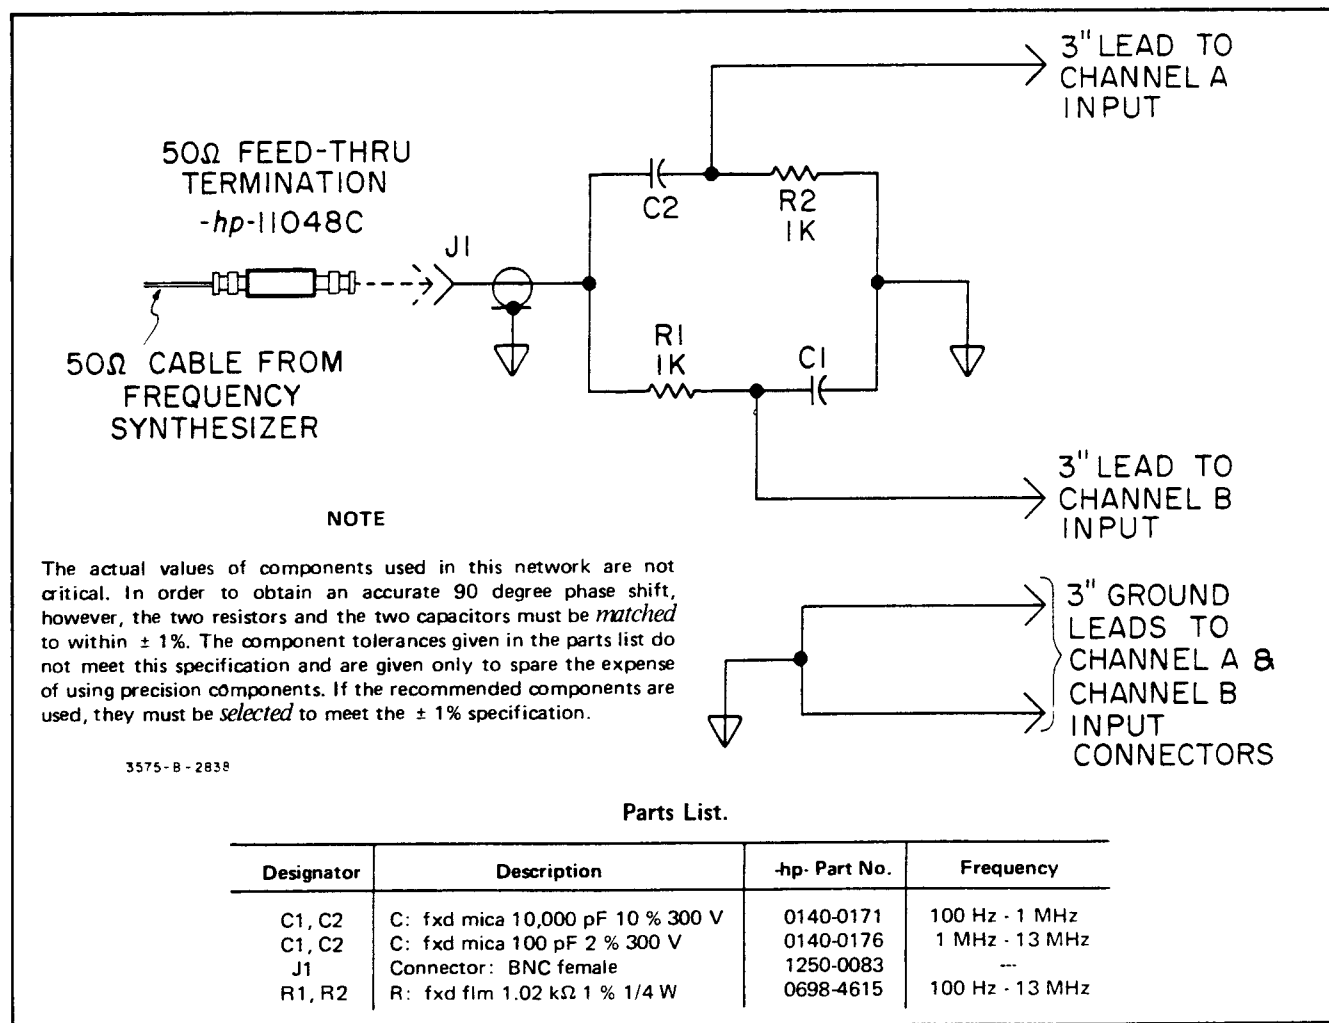

Figure 5-4. R/C Phase Shift Network.
5-18. The purpose of this check is to supplement the phase accuracy checks outlined in Paragraph 5-12. This check is included for the benefit of those who do not have a precision phase generator and desire to further verify the 3575A phase accuracy at 90 degrees. The test equipment required for this procedure includes a simple R/C phase shift network such as the one shown in Figure 5-4. The circuit shown in Figure 5-4 will produce an accurate 90 degree phase shift over the frequency range of 100 Hz to 13 MHz.
R/C Phase Shift Network (See Figure 5-4)
- a. Construct an R/C network as shown in Figure 5-4.
- c. Connect the output leads of the R/C network to the 3575A inputs as shown in Figure 5-4. The leads from the R/C network to the 3575A should be of equal length and as short as possible.